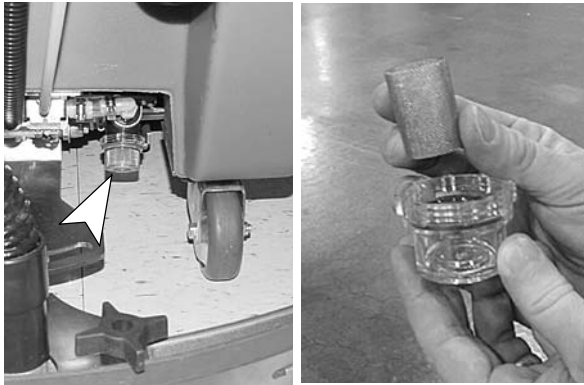

FIG. 35
4. Remove inline strainer filter and rinse out. Before removing filter, be certain solution tank is empty. Filter is located under machine at rear (Figure 35).